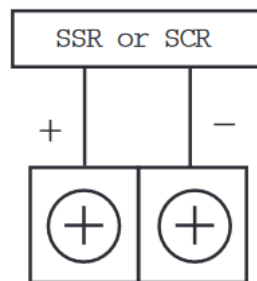

Figure 2
1. Wire your TEMP/HUMI.out to relevant heating elements. (figure 2)